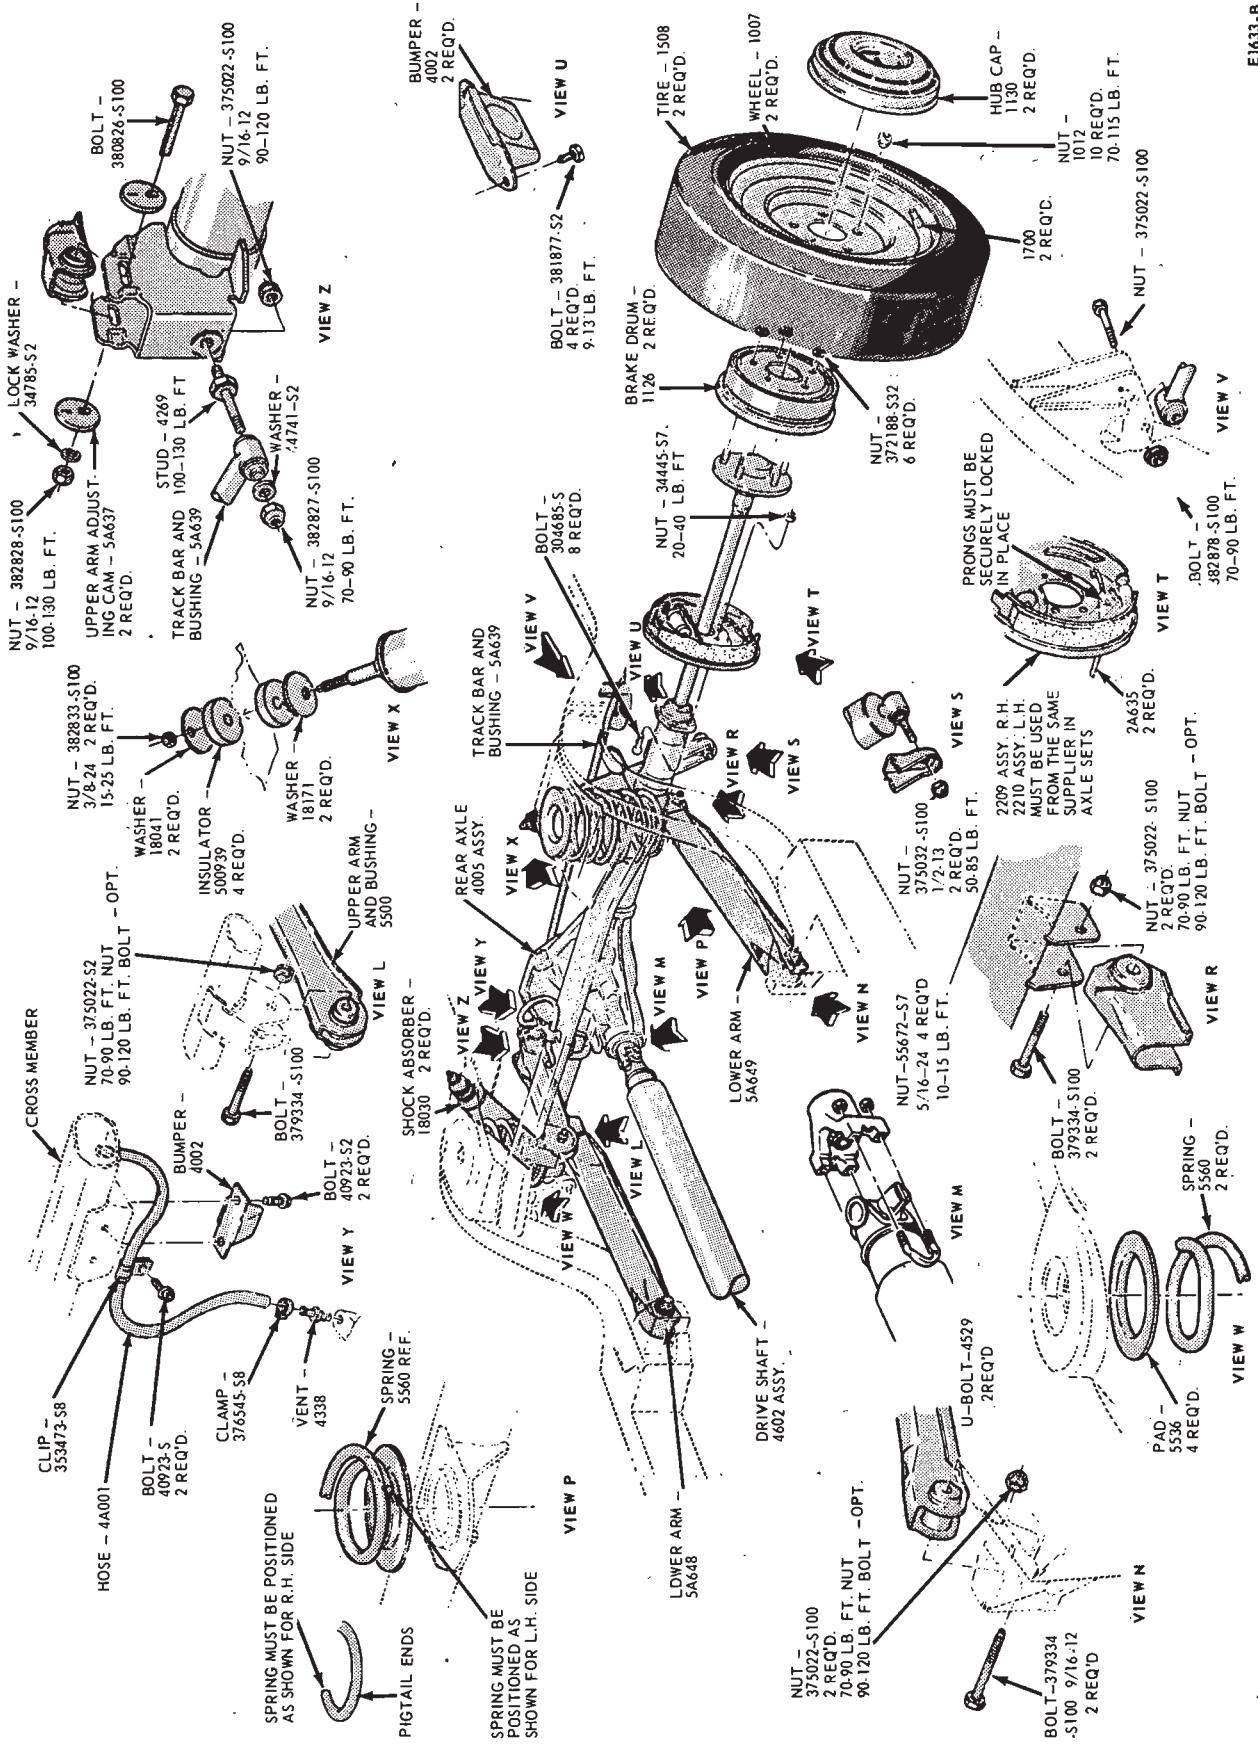

FIG. 8.—Rear Axle Installation—WER Axe
Refer to Fig. 8.
4. Remove the attaching (Tinnerman) nuts that secure the brake drums to the axle shaft flanges, and then remove the drums (Fig. 8).